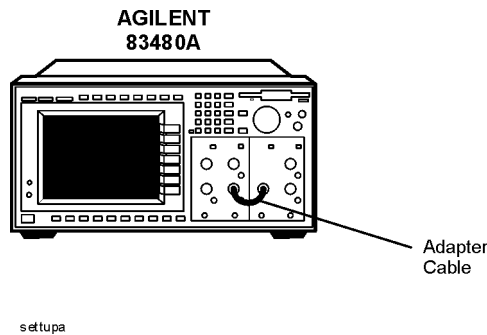

Figure 1-3. The adapter cable
- 2 If you changed the adapter in step one, you can connect the original adapter to the 83493/4A module's front-panel input connector. See Figure 1-3 to identify the input connector based on input wavelength.
- 3 Connect the supplied adapter cable as shown in Figure 1-3. Use the short cable (83492-20002) when operating at 750 nm to 860 nm wavelengths. Use the long cable (83492-20001) when operating at 1000 nm to 1600 nm wavelengths.